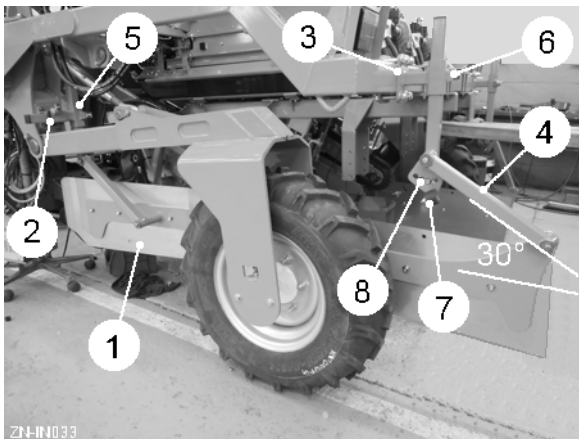

Fig 14
The soil retention panels (item 1, fig 14) prevent soil flowing from the openers into the wheelings.
To adjust, loosen the front support clamp (item 2, fig 14) and the rear support clamp plate (item 3, fig 14) and move the retention panel unit in or out to the desired position. To improve the soil flow it may be necessary to adjust the panels so that they sit at an angle to the openers, with a larger gap at the rear.
During work the panels (item 1, fig 14) should be horizontal and the pivot arms (item 4, fig 14) approximately 30° from horizontal enabling the panels to rise and fall when following the ground contours. To adjust, loosen the front leg clamp (item 5, fig 14) and rear leg clamp (item 6, fig 14) and raise / lower the unit until the correct angle is achieved. The stop bracket (item 7, fig 14) supports the retention panel when lifting the planter out of work. To adjust the height, reposition the locking bolt (item 8, fig 14) into a different hole in the plate.